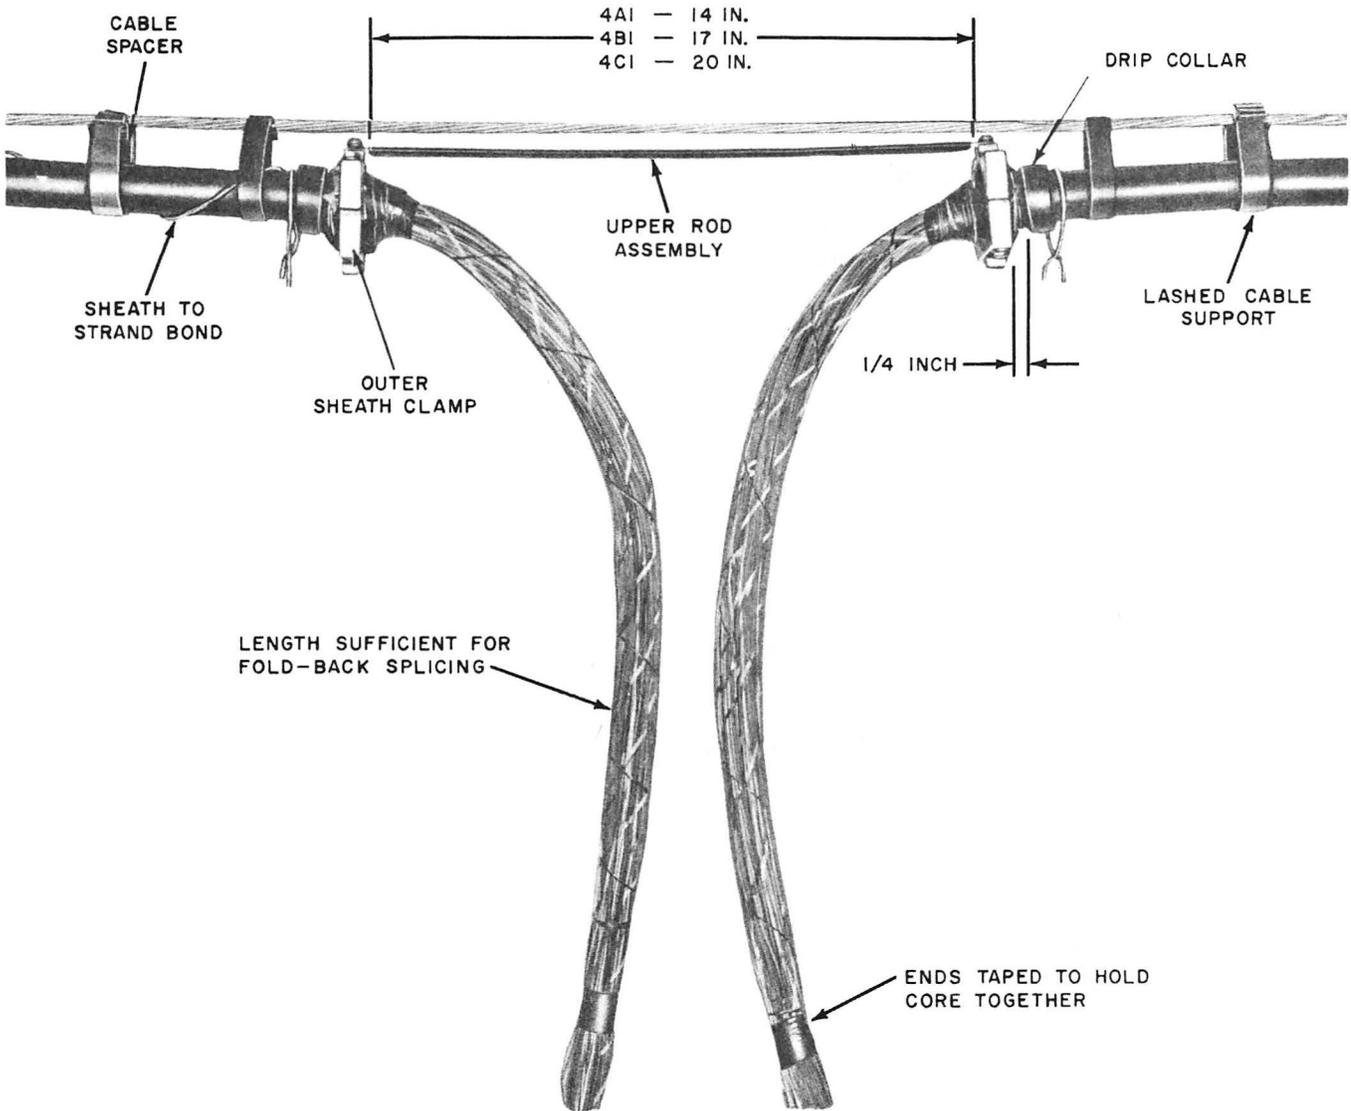

Fig. 4—Outer Sheath Clamps and Upper Rod Assembly Installed
4.01 Install adapter assembly, if required, and the outer sheath clamps over the inner sheath clamps as shown in Fig. 4. Place the upper rod assembly and check for proper spacing and alignment of the outer sheath clamps, rod assembly, and inner sheath clamps. Form a loop of copper lashing wire long enough to reach the lashing wire clamp at one end of the splice. Place the loop